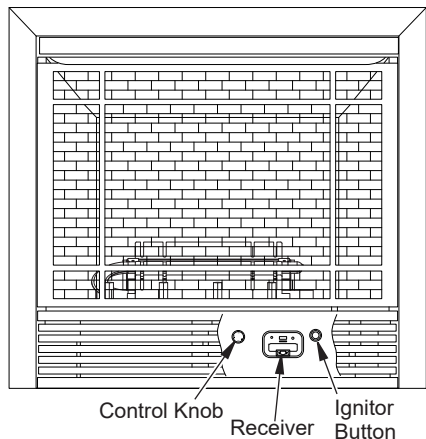

Figure 24 - Control Knob in the OFF Position
*Note: The first time that the heater is operated after connecting the gas supply, the control knob should be pressed for about thirty (30) seconds. This will allow air to bleed from the gas system. If pilot does not stay lit, refer to **Troubleshooting**, pages 27 through 30. Also contact a qualified service technician or gas supplier for repairs. Until repairs are made, light pilot with match.*
4. Wait five (5) minutes to clear out any gas. Then smell for gas around heater and near the floor. If you smell gas, STOP! Follow "B" in the safety information above. If you do not smell gas, go to the next step.
5. Push in the control knob slightly and turn counterclockwise  to the PILOT position. Press in control knob for five (5) seconds (see Figure 24).